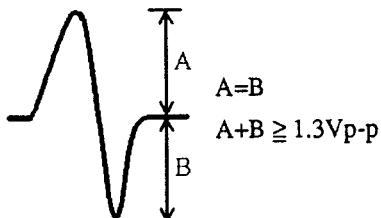

Fig. 8
3. When the TRACK FWD \gg key is pressed while observing the oscilloscope screen, the waveform shown in Fig. 8 can be observed instantaneously. Confirm that the amplitude in this state is 1.3 Vp-p or more and that the amplitude is nearly equal on positive and negative sides. Since the waveform appears only instantaneously when the TRACK FWD \gg key is pressed, repeat pressing this key until confirmation of the waveform is completed.